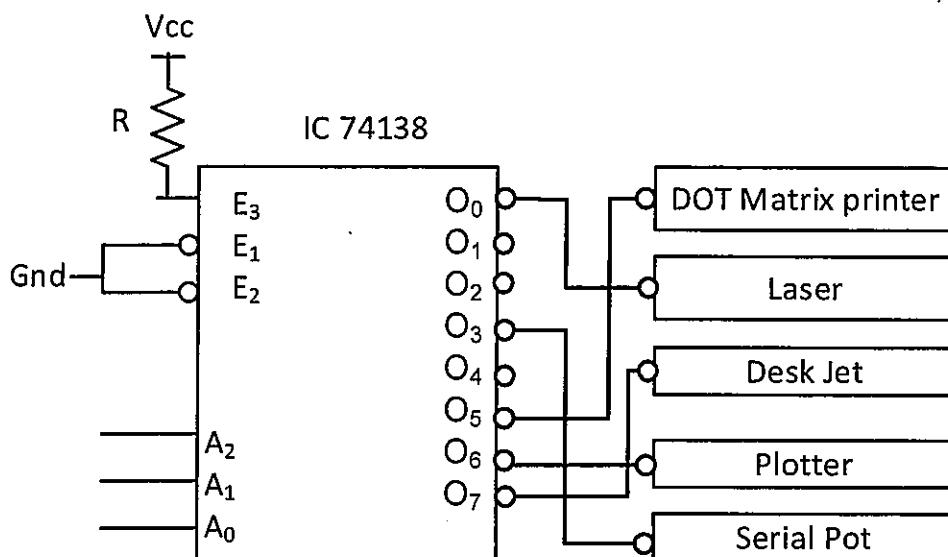

Figure Q3(b) / Rajah Q3(b)
- When any one of the switches, is in the up position, the indicator light changes to yellow (Y).
- When both switches are in the up position, a green indicator (G) comes on.
- The engines of the Car Ferry can only be started when the green indicator (G) is on.
- *Apabila kedua-dua suis turun, penunjuk merah (R) pada panel instrumen dihidupkan.*
- *Apabila mana-mana suis, berada di kedudukan atas, lampu indikator berubah menjadi kuning (Y).*
- *Apabila kedua-dua suis berada di kedudukan atas, penunjuk hijau (G) muncul.*
- *Enjin Kereta Feri hanya boleh dimulakan apabila penunjuk hijau (G) dihidupkan.*
- i) Complete the following truth table for the system in Figure Q3(a) in the attachment.
- (b) Referring to Figure Q3(b), the 74138 decoder has an input signal of  $A_0$ ,  $A_1$  and  $A_2$ . Determine the input for binary code that can activate the output devices at  $\bar{O}_0$ ,  $\bar{O}_3$ ,  $\bar{O}_5$ ,  $\bar{O}_6$  and  $\bar{O}_7$  in Table Q3(b) in attachment. Refer the data sheet in appendix.